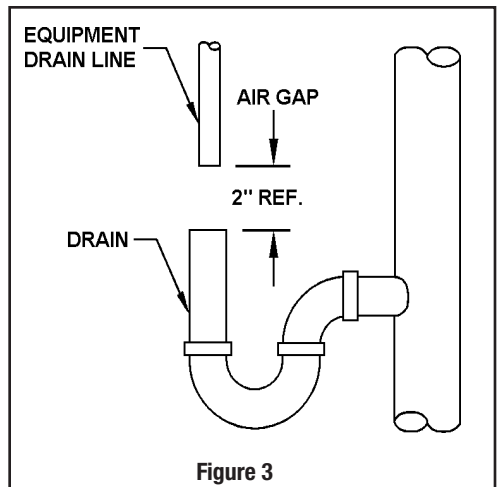

Figure 3
Step 8) Position the drain line over the drain and secure firmly. To prevent back-siphoning of sewer water, provide an air-gap of at least 2” or 2 pipe diameters between end of drain hose and drain (Figure 3). **DO NOT** raise drain line more than 10 ft. above floor.